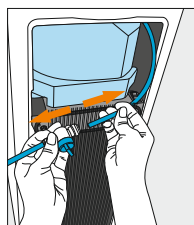

Figure 15
2. Turn off the water supply via the shut off valve, and disconnect the water supply from the cooler. (Figure 15)